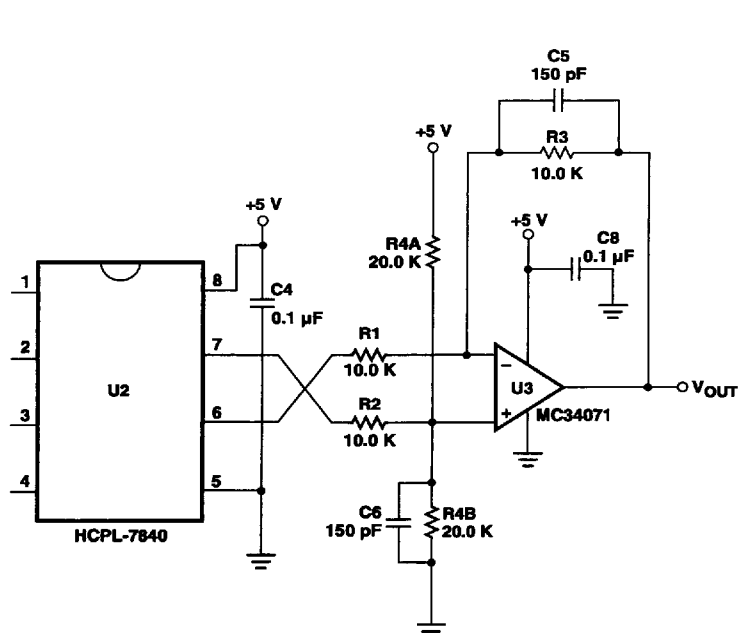

Figure 25. Single-Supply Post-Amplifier Circuit.
2. Exact offset value is dependent on layout of external bypass capacitors. The offset value in the data sheet corresponds to HP's recommended layout (see Figures 25 and 26).
The post-amplifier circuit can be easily modified to allow for single-supply operation. Figure 25 shows a schematic for a post amplifier for use in 5 V single supply applications. One additional resistor is needed and the gain is decreased to 1 to allow circuit operation over the full input voltage range. See Application Note 1078, *Designing with Hewlett-Packard Isolation Amplifiers*, for more information on the post-amplifier circuit.